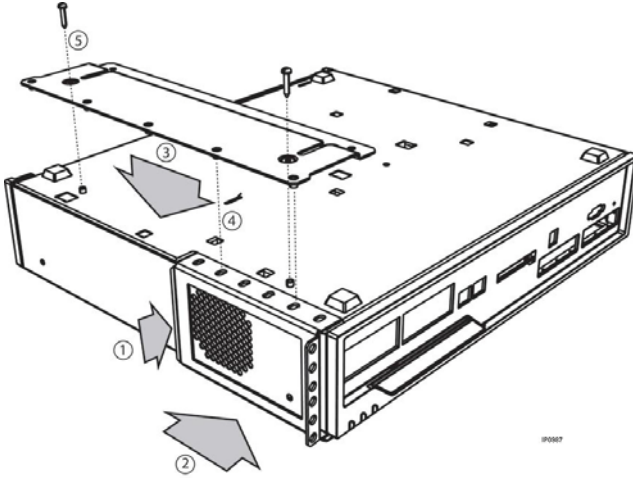

Figure 20: CX/CXi Controller Rack-Mount Bracket Installation
2. Turn the cabinet over and place the bracket on the left side of the cabinet as shown in Figure 20. The farther you position the bracket back from the front of the cabinet, the farther the cabinet will protrude from the rack.